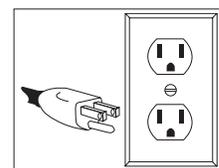

Figure 3
5. Connect machine to power source. **(Figure 3)**